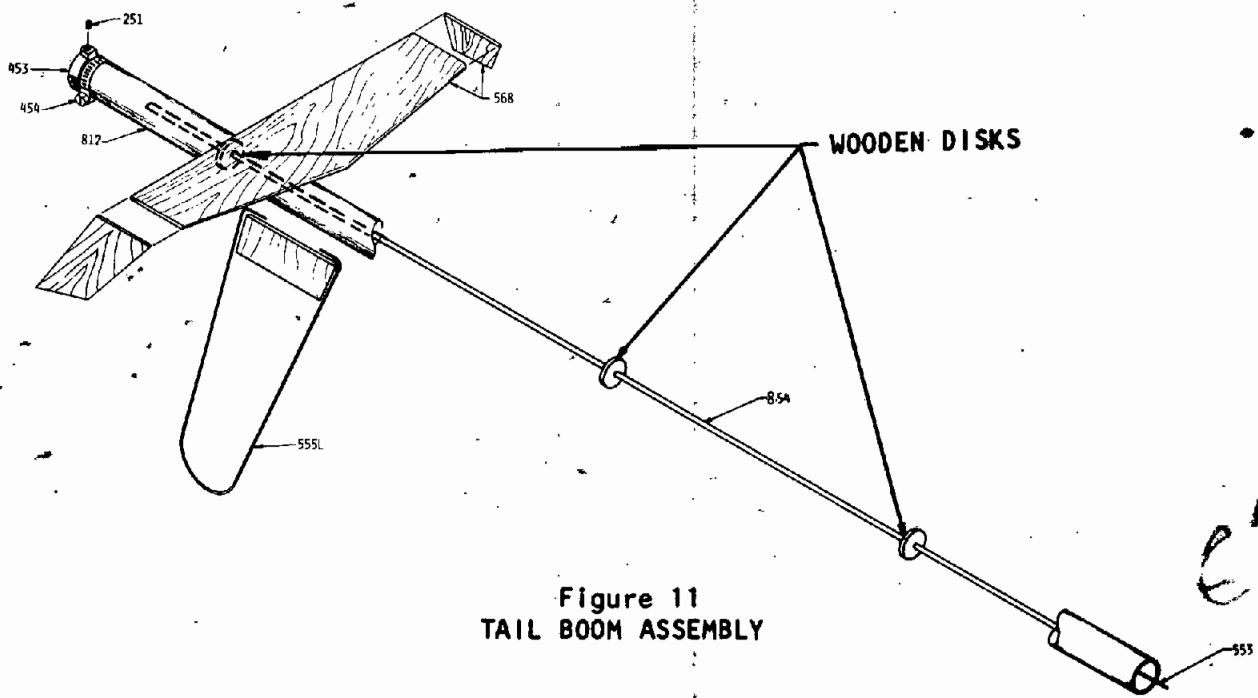

Figure 11
**STEP 14 TAIL BOOM ASSEMBLY - see Figure 11**